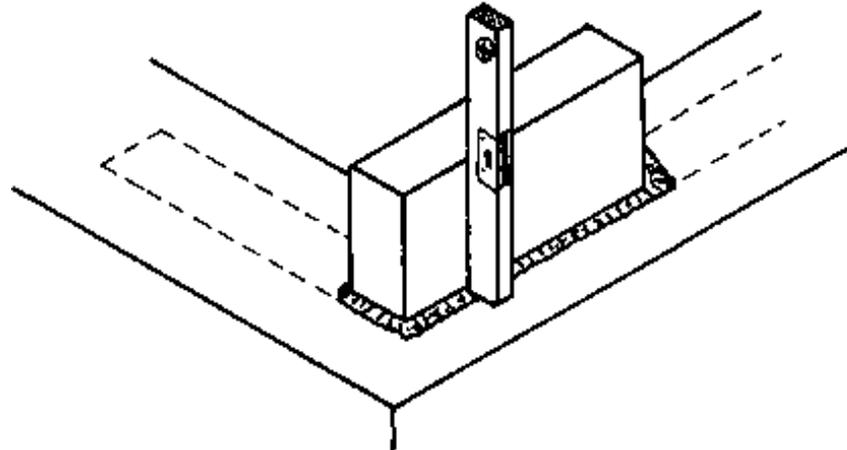

**Fig. 2 CHECK CORRECT HEIGHT**
**Use the straight edge with gauge marks to ensure that the block is laid at the correct height. Hold the straight edge vertically against the block; the top edge of the block should correspond to the gauge mark (Fig. 2).**